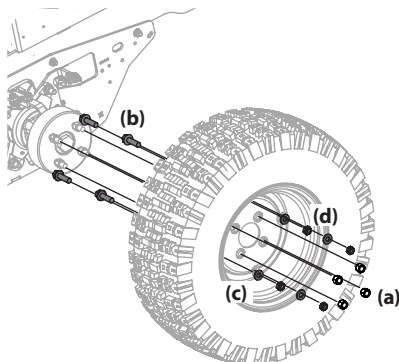

**Figure 4-15**
- If necessary, Remove the dual wheel adapter (a) by removing the four flange lock nuts (b). See Figure 4-15.